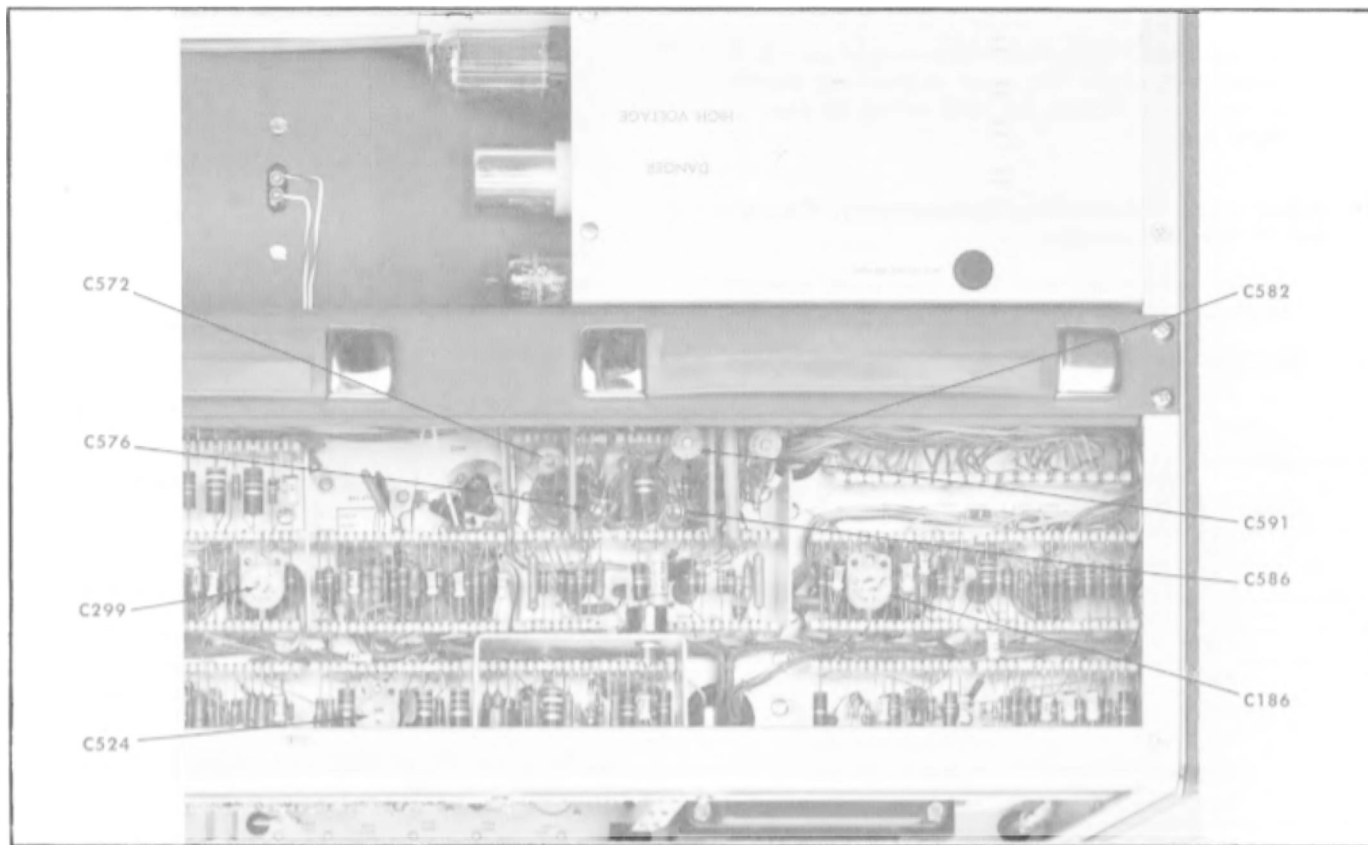

Fig. 5-13. Calibration adjustment locations.
- d. Adjust C186 (see Fig. 5-13) so the starting portion of the B trace is the same brightness as the starting portion of the A trace.
- g. Check that C576 and C586 (see Fig. 5-13) slug-adjusting screws are about six turns above the metal wiper contacts of the capacitors.
- i. Adjust C572 and C582 (see Fig. 5-13) for maximum center-sweep expansion. (Use a low-capacitance alignment tool when making the adjustments.) The two capacitors should be adjusted to nearly the same physical setting.
Adjust C591 (see Fig. 5-13) for best center-sweep linearity of 1 cycle/2 cm.